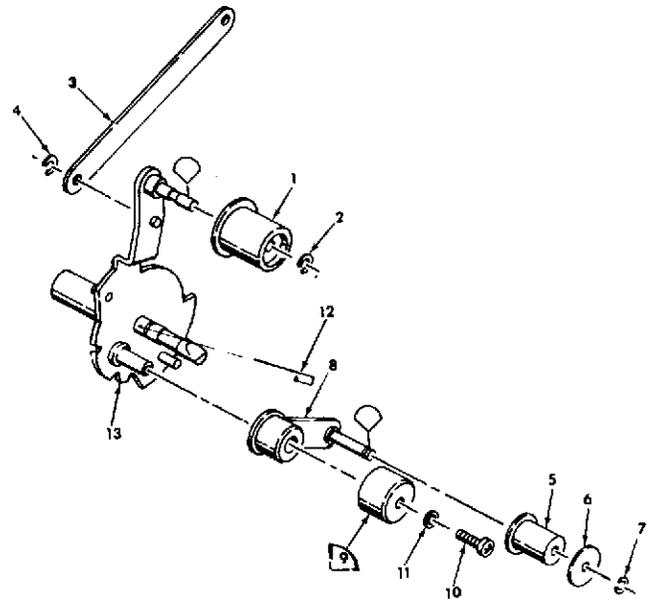

Figure 3-16. THREADING CONTROL PLATE COMPLETE
4. Threading Control Plate (Fig. 3-16)
- a. Apply Silicone DC-200 to face and inside diameter of cap (9).
- b. Screw (10) to be tightened with 95 to 105 in. oz. torque.
- c. Rotate arm assembly (8) counterclockwise until it is stopped by center shaft. When released, arm must return to original position within 3 to 8 seconds.
- e. Roller (1) end play to be .005 to .015.